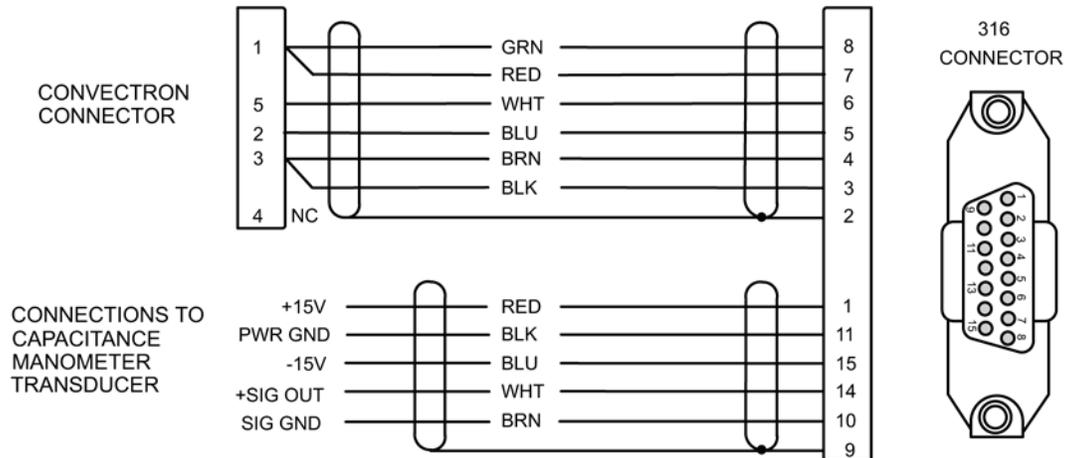

Figure 4-3 Capacitance Manometer Module, Cable
The cable supplied by Granville-Phillips for this module connects to both a Convectron gauge and a capacitance manometer. Since electrical connectors to capacitance manometers are not standardized, Granville-Phillips provides cables terminated with tinned wire leads. Figure 4.3 shows the color-coded functions of the wires. Refer to the manual for your capacitance manometer transducer for information on electrical connection, and installation of the transducer in your vacuum system.
1. Be sure the transducer was zeroed properly on initial installation; see your transducer documentation. Connect the cable from the 316 VGC to the capacitance manometer transducer. See Section 4.3 and Figure 4-3.